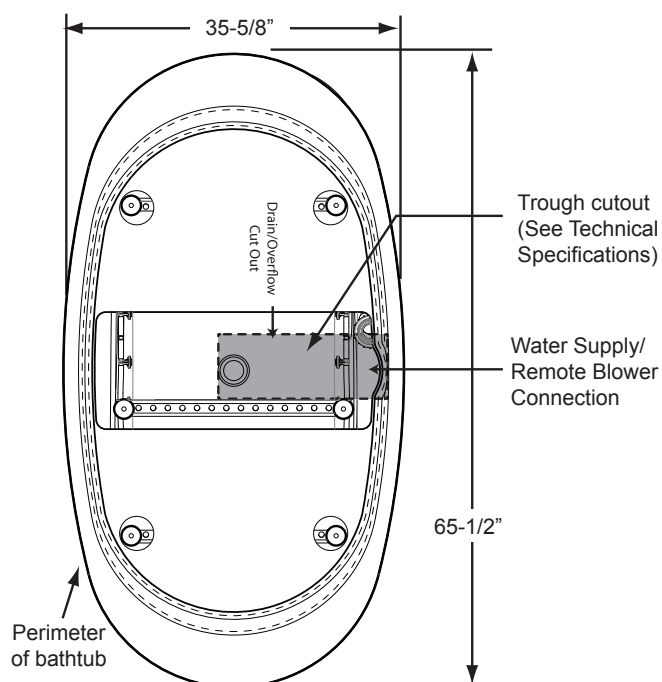

Figure 2. Template for Bravo™ 6636 Skirt
- 1 Use a screwdriver and loosen the level adjustment bolts (Figure 2).